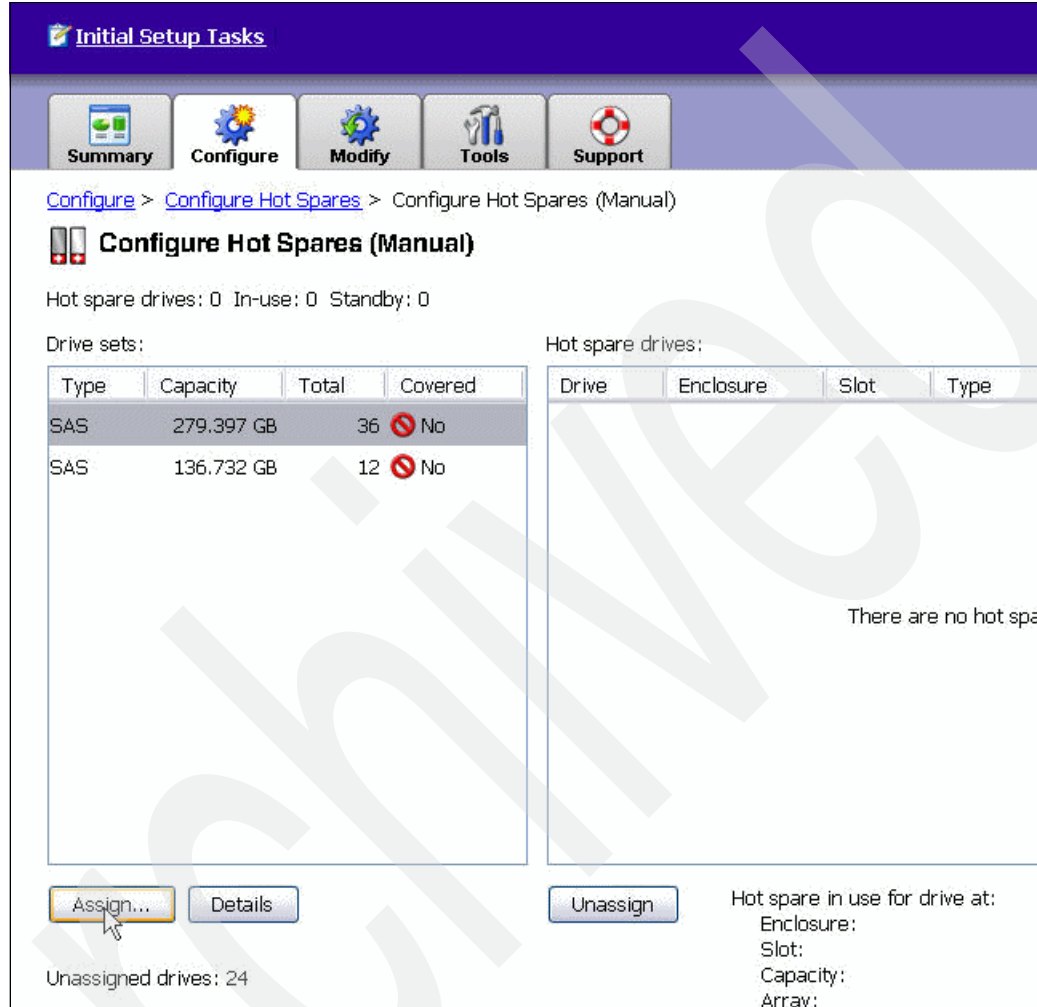

Figure 7-23 Assigning disk drives for hot spares
1. In DS3400 window we use **Configure** → **Configure Hot Spares** → **Configure Hot Spares (Manual)**. In the Configure Hot Spares window we select the type of disk drive for the spare and click **Assign**, as can shown in Figure 7-23.